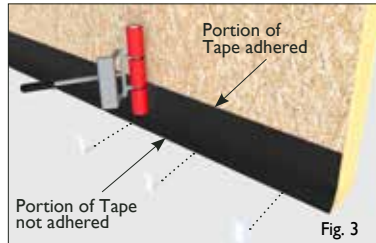

Fig. 3
1. Apply 150mm Wraptite UV Split Liner Tape to the bottom edge of the wall panel. Create a flap by adhering the top half of the Tape only using the release liner: Roller top edge well. (Fig.3)